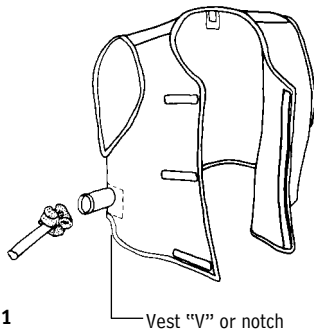

Figure 1
1. Insert the muffler end of the cooling vest connector hose well into the air entry sleeve of the vest (**Figure 1**).
The vest should mount over the belt with the Dual-Cool unit positioned in the "V" of the vest found on the right-hand side (**Figure 1**).